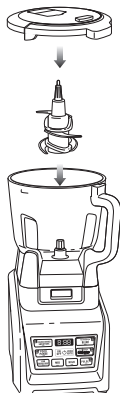

Fig. 1
- 4 Holding the Chopping Blade Assembly by the shaft, place it onto the gear shaft inside the bowl. Ensure that the Chopping Blade Assembly fits around the gear shaft and that it is standing straight. **(Fig. 1)**